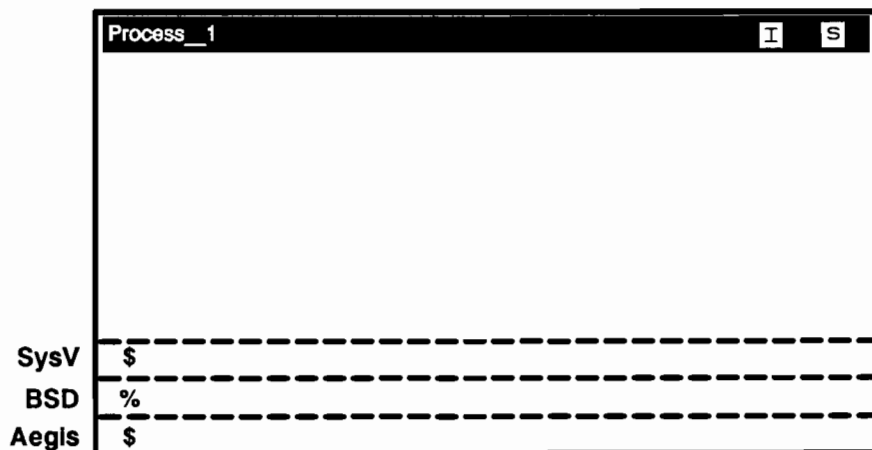

Figure 2-6. Process Window Showing Default Shell Prompts
8. Your screen comes up with a blank process window as shown in Figure 2-6. You see only one system prompt, although Figure 2-6 and other process windows in this book show three prompts (and command lines) to indicate the three different environments of Domain/OS.